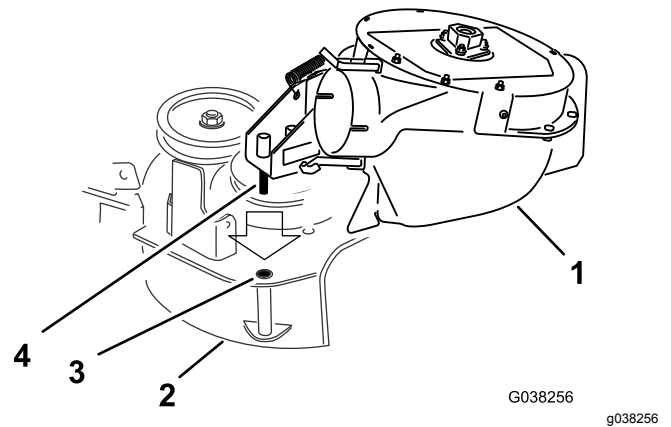

Figure 35
1. Align the pivot pin on the blower with the pivot-pin hole in the mower deck (Figure 35).
5. Lower the blower and slide the pivot pin into the pivot hole (Figure 35).